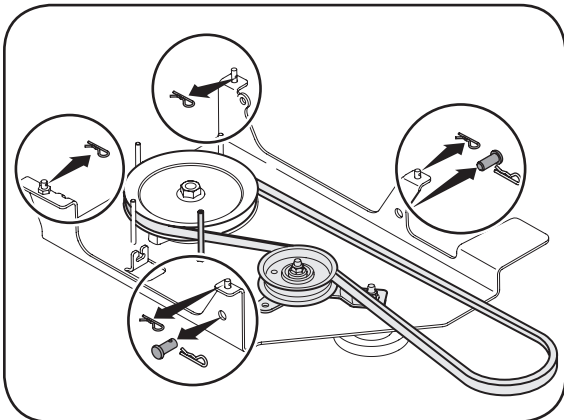

Figure 4-5
1. Remove and retain the four hairpin clips from the weld pins found on the top side of the undercarriage assembly. Remove and retain the two clevis pins with hairpin clips. This hardware is for later installation. See Fig. 4-5.